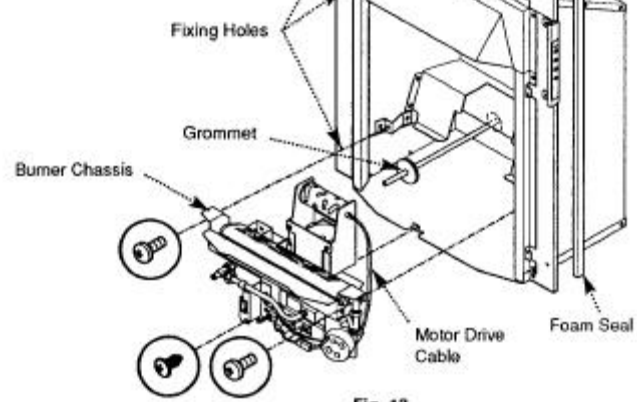

Fig. 13
- a) With the fire pushed onto the fireplace opening in the correct level position, mark the four holes in the wall through the fixing holes in the fire front. Remove the fire, drill and plug the wall (Fig. 13).
5. Take the foam seal from the kit and remove it's backing strip. Fit it to the rear of the fire frame ensuring the seal is applied in the correct position as to allow no spillage of products through the screw securing holes (Fig. 13).
7. Undo the three screws retaining the burner chassis to the combustion box sides and base. Carefully withdraw the burner chassis from the fire, taking care not to catch the motor drive cable in the fire and place to one side (Fig. 13). It will also be necessary to unplug the switch from the top right hand side of the fire and remove the cable from the clips.